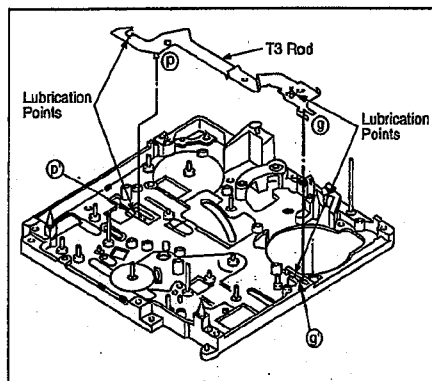

Fig. M32
18. T3 Rod & Brake Rod (Note of installation) Fig. M32 Remove the T3 Rod.